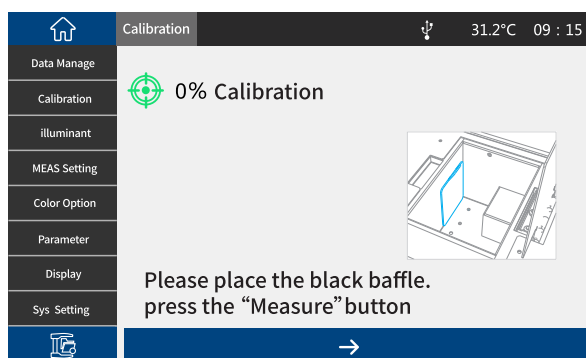

Figure 4 0% Calibration
2. Within the calibration validity period, you need to click “ → ” to enter the calibration interface. After placing the transmission blackboard according to the prompts, press the measurement button to perform transmission black calibration. If it is not within the calibration validity period, it will automatically enter the 0% calibration interface in Figure 4.